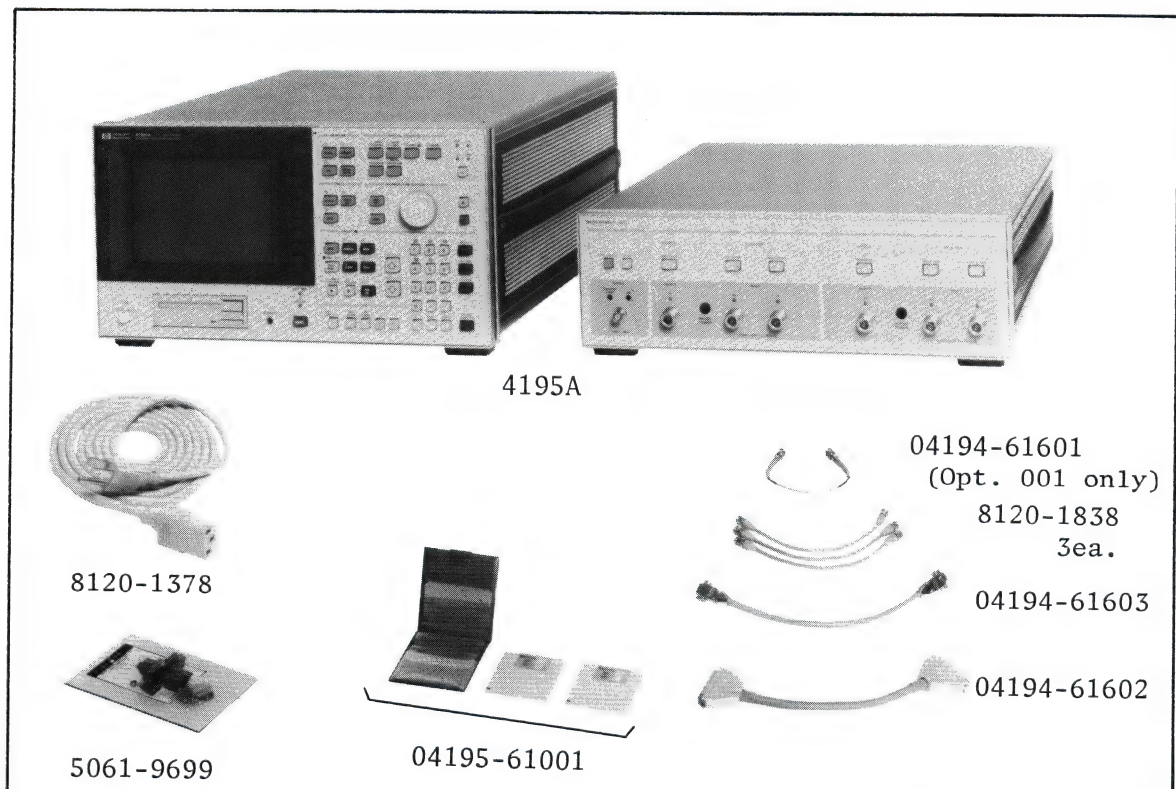

Figure 1-1. HP 4195A and Furnished Accessories
2. Verify that the shipping container contains everything shown in Figure 1-1.